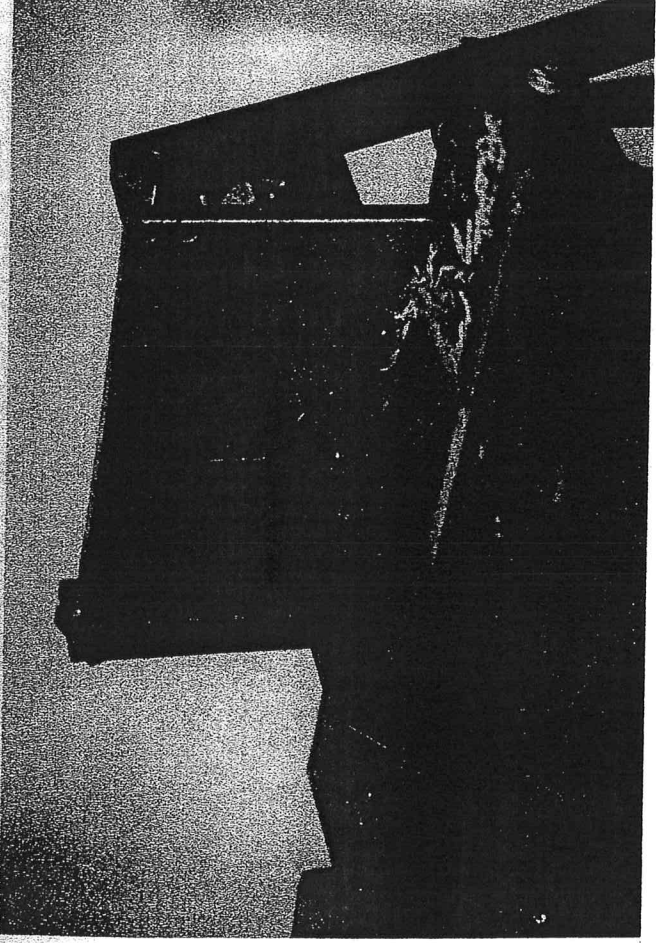

Fig. 5
3. Lower table $\frac{1}{2}$ the thickness of the material. This distance is constant and is unaffected by bit diameter. With piece A flat on table, cut a groove across the end, pushing the board with the miter gauge. (fig. 5)